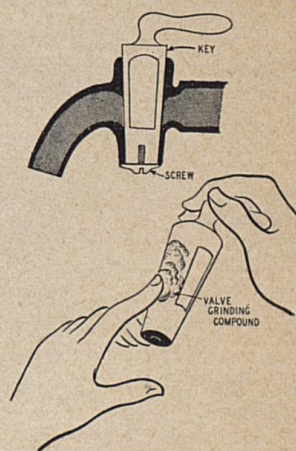

Fig. 62
3. Ground Key. Fig. 62.
Repair of Ground Key Faucet Fig. 62
2. Remove large screw at bottom of faucet. Fig. 62.
3. Remove key from faucet body and place valve grinding compound over surface. Fig. 62. Insert key back in faucet body and turn back and forth until smooth surface is obtained.